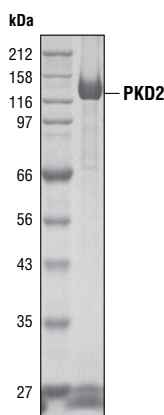

Figure 1. The purity of the GST-PKD2 fusion protein was analyzed using SDS/PAGE followed by Coomassie stain.
**Quality Control:** The theoretical molecular weight of the GST-PKD2 fusion protein is 124 kDa. The purified kinase was quality controlled for purity using SDS-PAGE followed by Coomassie stain [Fig.1]. PKD2 kinase activity was determined using a radiometric assay [Fig.2].